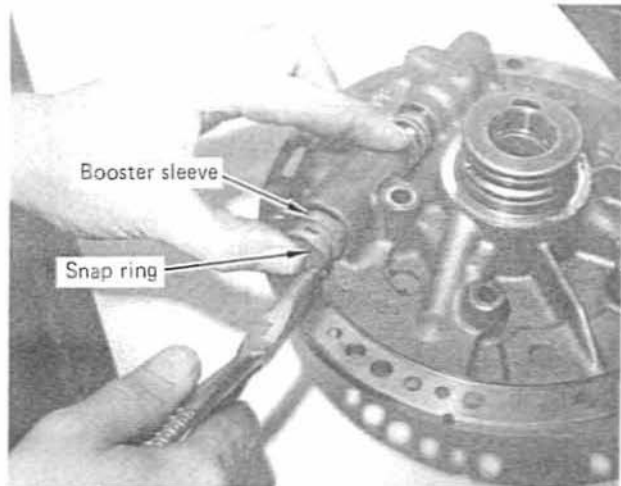

FIGURE 37
STEP 6. Install the booster valve/sleeve assembly into the pump with the valve facing in. (See Fig. 37) Hold the sleeve in place and install the snap ring. Make sure the snap ring is fully seated in its groove. Install regulator valve plug in opposite end next to regulator valve. Push in on plug and install retaining pin into its hole.